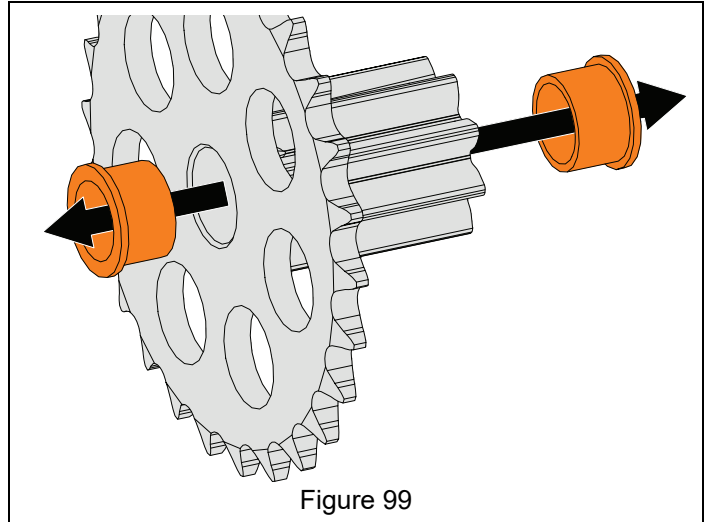

Figure 99
8. Remove flange bushings from pinion gear. See Figure 99.